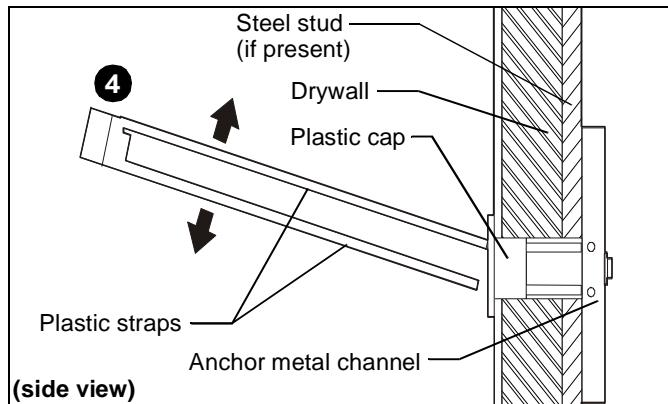

Figure 29
4. Snap off plastic straps on anchor at wall by pushing side to side, snapping off straps level with flange of plastic cap. (See Figure 29)